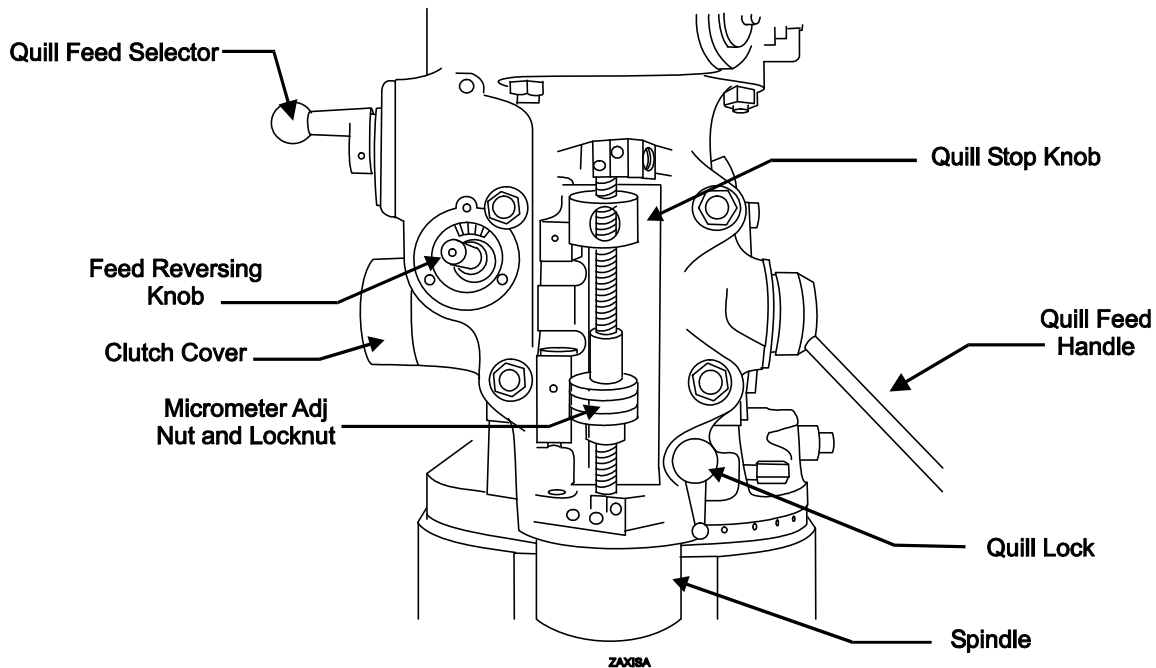

Figure 3-19, Parts Removal Diagram
2. Remove the feed gear cover cup (clutch cover), P/N 67210296, from the left side of the head. Remove the gear, arm, spring, and pin. Cover the hole with the clutch cover, using the two 10-24 x 3/8-inch button-head screws, P/N 86100298 from the Z-Axis Hardware Kit. Refer to **Figure 3-19, Parts Removal Diagram**.